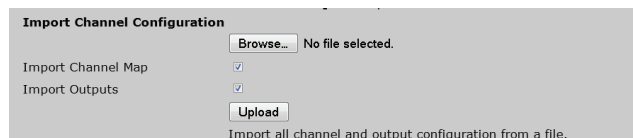

Figure 12-3: Import Channel Configuration
The Import Channel Configuration function, Figure 12-3, allows importing of a previously exported configuration. By default, the Channel Map and configured Outputs and Settings will be imported from the file.
**Table 12.5a: Import Channel Configuration (See Figure 12-3)**